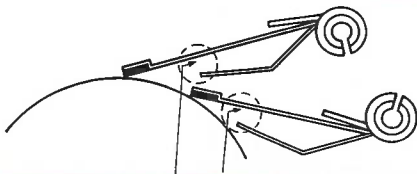

Fig. 48
2. Engage index jewel into index wheel by turning collet with adjusting tool (E 9981) until the gap between the gage and finger is INCREASED BY A DISTANCE EQUAL TO 1 THICKNESS OF THE INDEX JEWEL more than the initial setting during step 1. (Fig. 48).